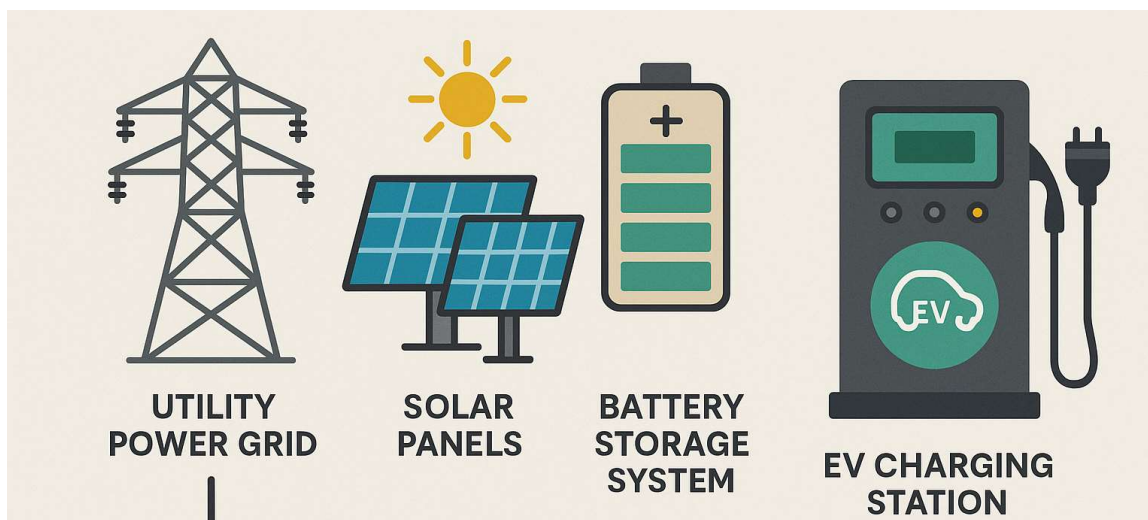

Fig. 3.4: The Power Supply System for the Electric Vehicle (EV) Charging Station
1. Power Supply System: The power supply system is the main source of electrical energy for the electric vehicle (EV) charging station shown in Figure. 3.4. This energy can come from several sources, including the utility power grid, which delivers electricity from large power plants, renewable energy systems like solar panels that harness sunlight, or battery storage systems that store energy for later use.